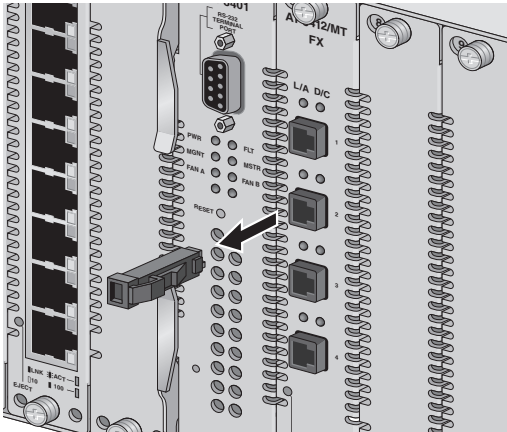

Figure 7. Removing an MT Port Dust Cap
10. Remove the dust caps from the AT-8412/MT FX ports. See Figure 7 on page 13.